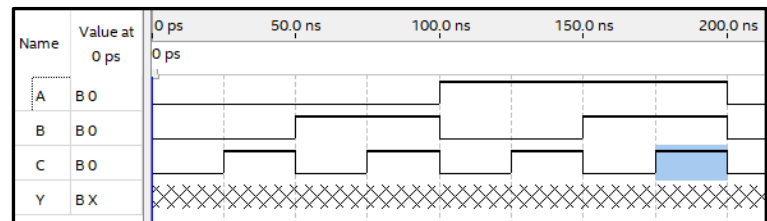

Figure 9: VWF with manual inputs
- Use the magnifying glass to zoom in on the waveform window until you can see 50 ns intervals as seen in the image of Figure 9.
- Using your mouse (make sure the pointer is selected), click and drag your mouse cursor across 100 ns to 200 ns on input A to select the area. Now select the “1” button on the toolbar (or select “Edit”, ”Value”, “Forcing High (1)”) to set this signal to High during this time window.
- Manually manipulate your signals to match the image in Figure 9. Save this simulation design.